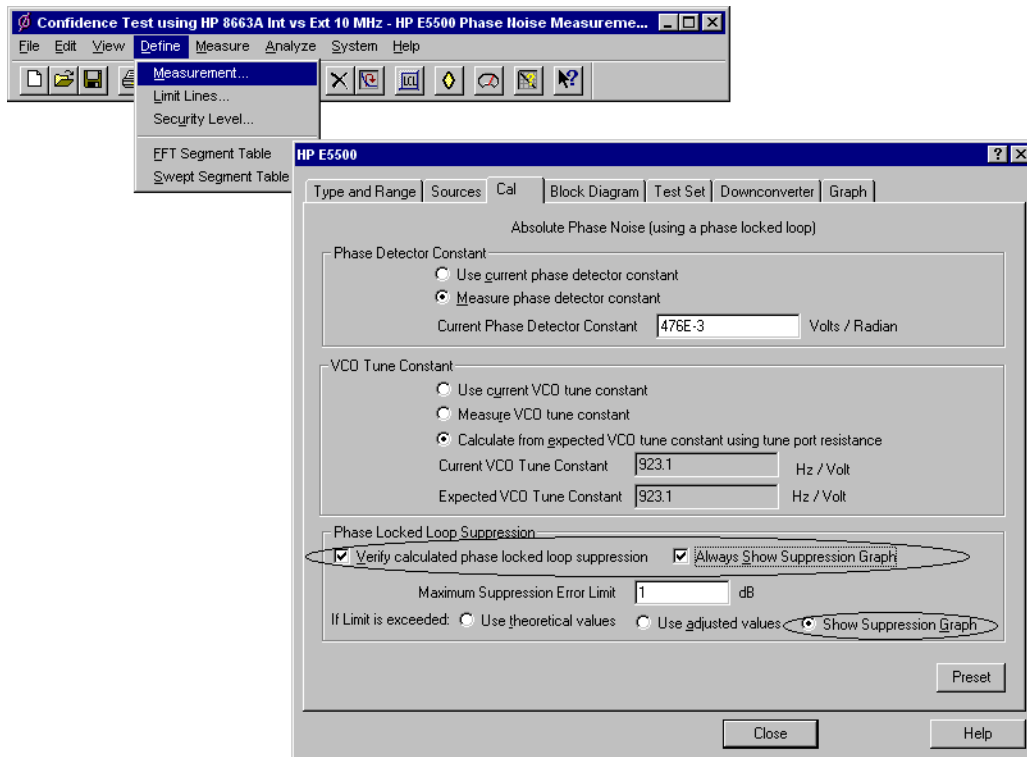

Figure 7-37 Selecting Loop Suppression Verification
- 1 Using Figure 7-37 as a guide, navigate to the **Cal** tab.